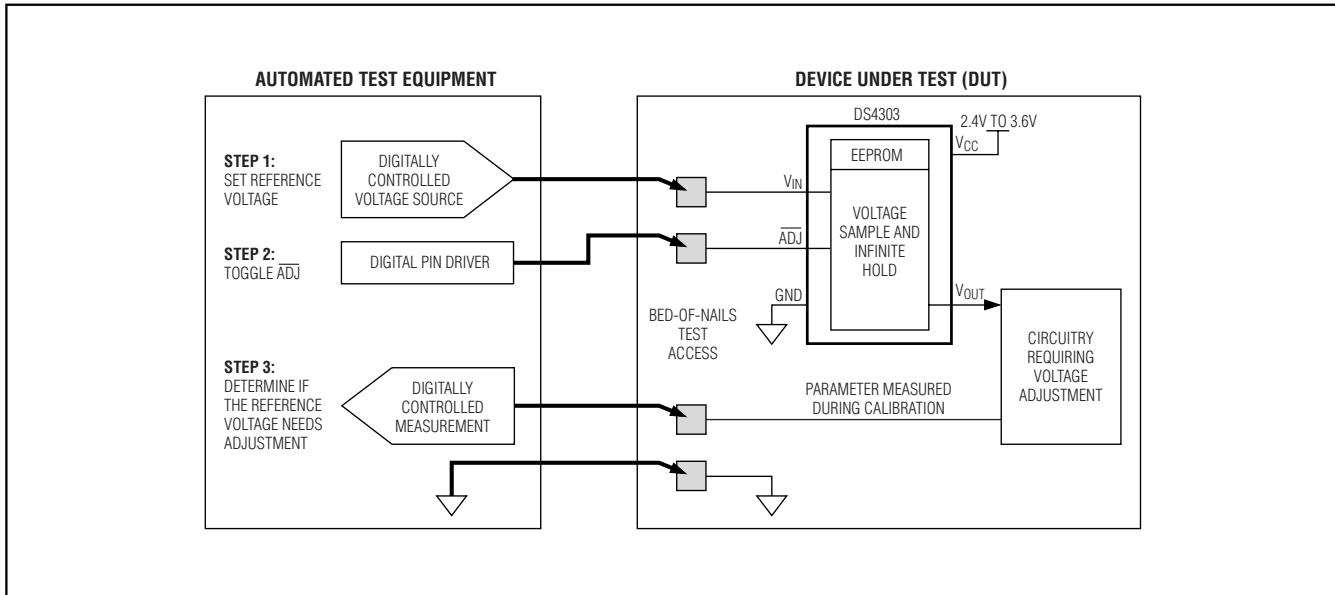

Figure 2. Application Circuit
Figure 2 details an example of how the DS4303 can be adjusted in an application. During factory alignment, a three/four-node bed-of-nails is used to: (1) provide the adjustment voltage through the V_{IN} pin, (2) control the \overline{ADJ} input, and (3) sense the needed feedback parameter. During manufacture, an automated test procedure adjusts V_{OUT} by changing V_{IN} , until the feedback parameter is optimized. After the bed-of-nails operation is complete, both the V_{IN} and \overline{ADJ} inputs are left open